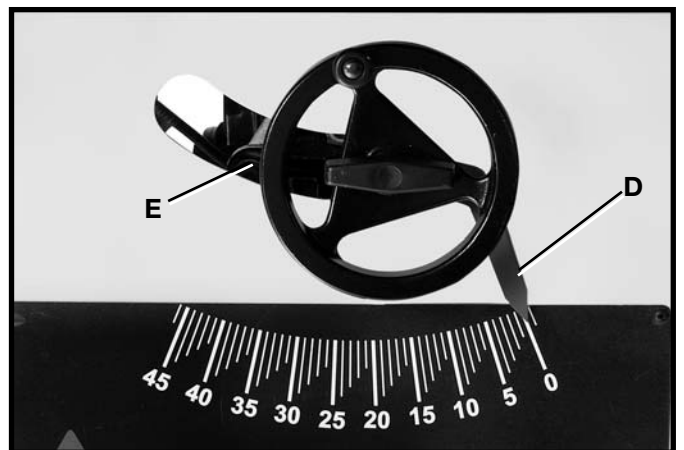

Fig. 44
5. Adjust the pointer (D) Fig. 44, to point to the zero degree mark on the scale by loosening screw (E), adjusting pointer (D), and tightening screw (E).